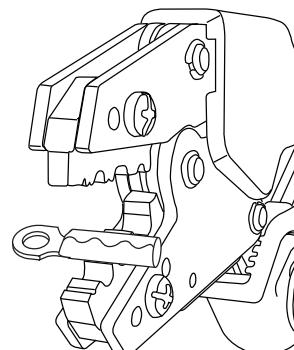

Figure 2
2. Insert terminal into proper nest as shown in Figure 2, with terminal barrel seam facing indentor.